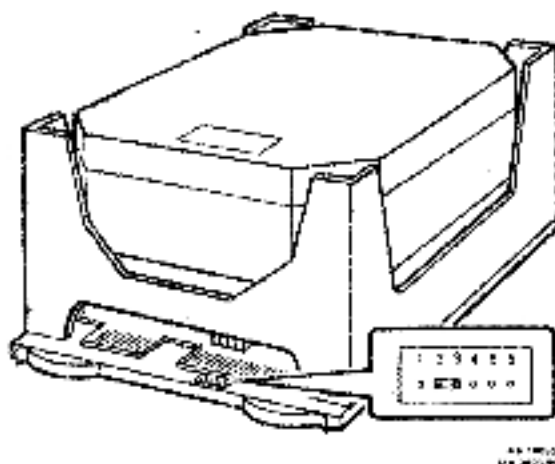

Figure 4-8 Setting a Drive Select Switch
1. Assign a logical unit number (LUN) to the drive unit by setting (turning on) one drive select switch, DS1 through DS4 (Figure 4-8).